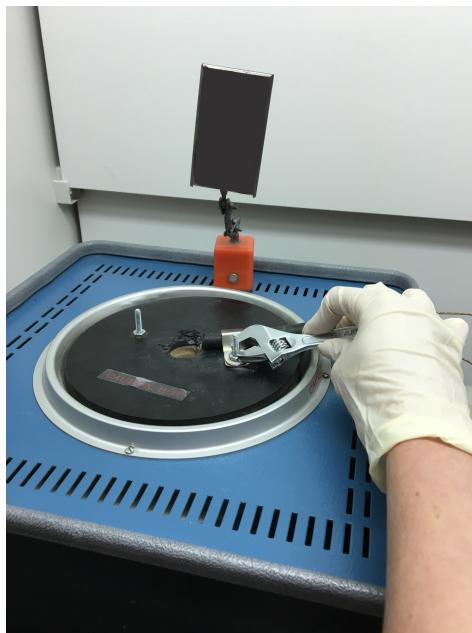

Figure 12: Position thermocouple 4 with the rubber hose and tighten
- \* Tighten the nut on the bracket hand tight and then give a half turn with a wrench to secure the nut (See Figure 12)